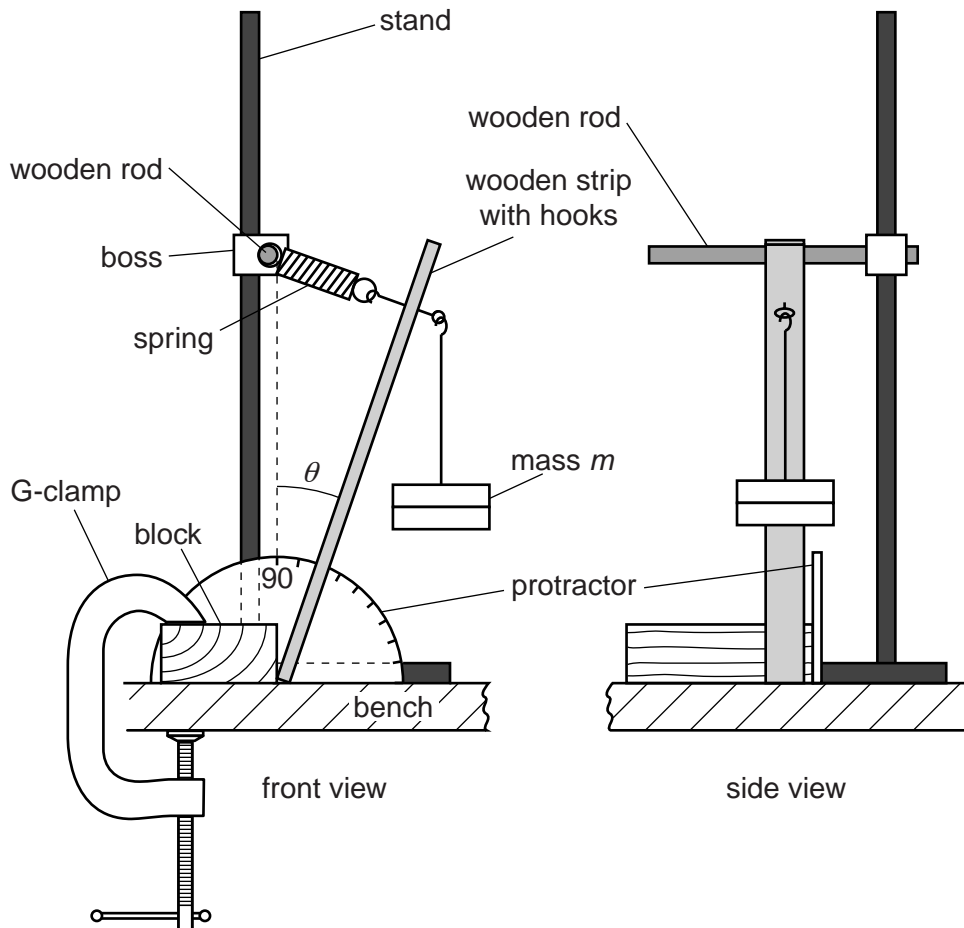

Fig. 1.1
(a) Set up the apparatus as shown in Fig. 1.1 where the mass  $m$  is 200g.
- (iii) Measure and record the angle  $\theta$  between the strip and the vertical line on the protractor as shown in Fig. 1.1.